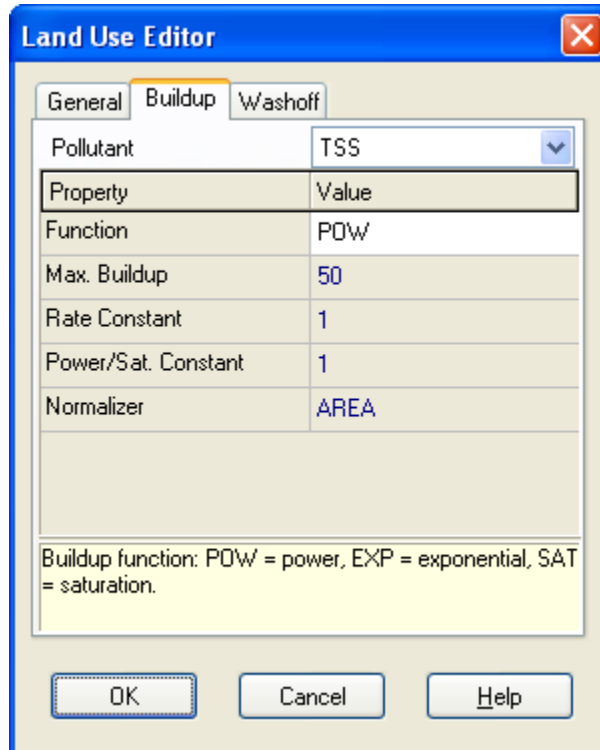

Figure 2-19. Defining a TSS buildup function for Residential land use.
2. In the Land Use Editor dialog, move to the Buildup page (see Figure 2-19).